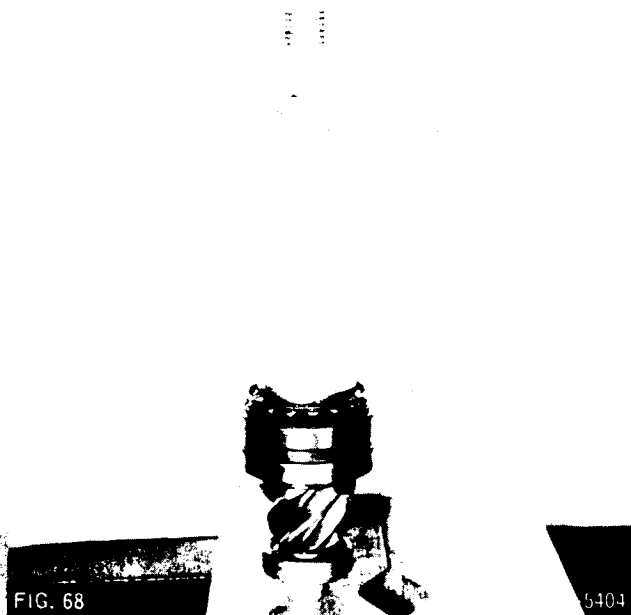

FIG. 68
3. Press outer bearing cone on pinion (Fig. 68). Lubricate bearings with gear lube and rotate several revolutions to assure normal bearing contact.